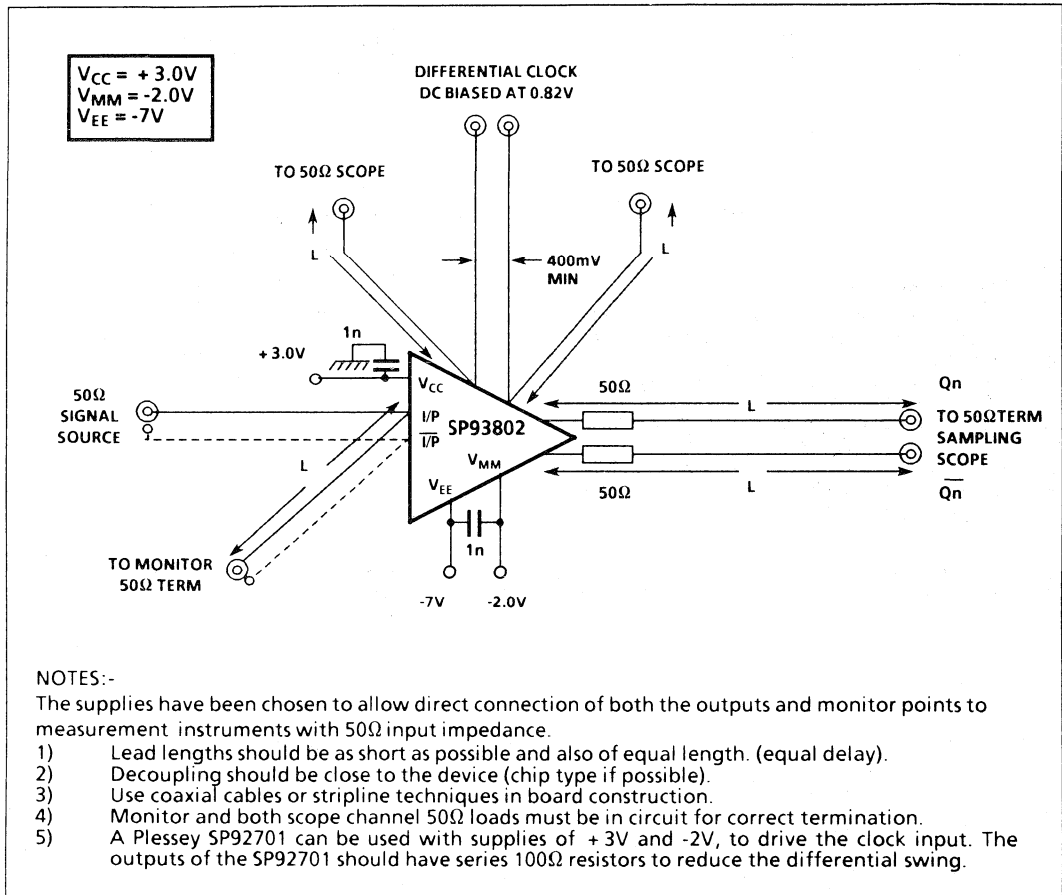

Fig.8 Comparator dynamic test circuit (one channel)
1. SET is the input to the glitch capture circuit and is logically the same as the Q output from the comparator, see Fig.8.